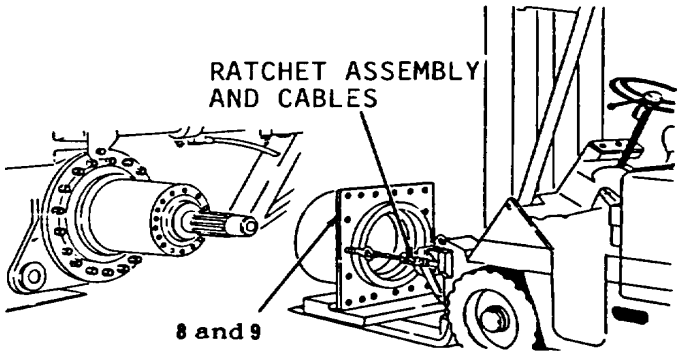

Figure 5-128.
4. Using ratchet assembly and cables, remove items 8 and 9 as an assembly (Figure 5-128) from vehicle.